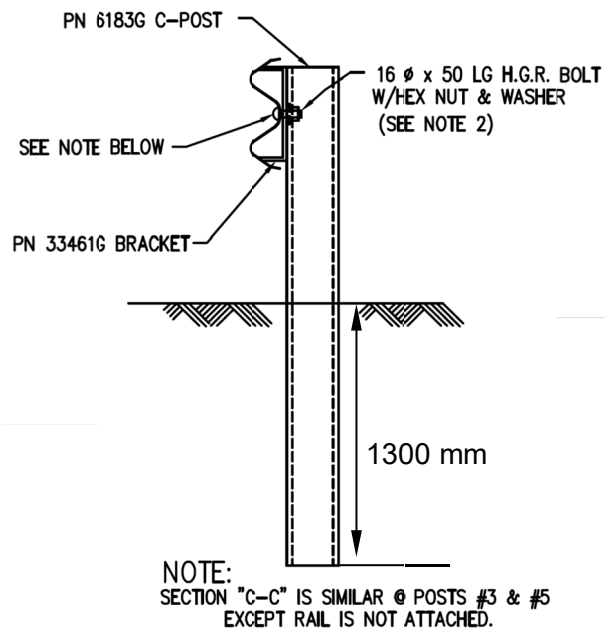

Figure 6
Option (1) Drive the C120 Posts (PN 6183G) with an approved driving head to the appropriate depth(s), approximately 1300 mm (see Figure 6).
2. At Post location 6, fasten the Standard Guardrail (PN 10629G) and U-Bracket (PN 33461G) to the 2000 mm C120 Post (PN 6183G) using a 16 mm x 50 mm Guardrail Post Bolt (PN 3400G), a rail hex nut (PN 3340G), and a flat washer (PN 3300G) (see Figure 6). The flat washer is positioned between the post and the nut.
Fasten a U-Bracket (PN 33461G) to the 2000 mm C120 Post (PN 6183G) using a 16 mm x 50 mm Guardrail Post Bolt (PN 3400G), a rail nut (PN 3340G), and a flat washer (PN 3300G). The washer is positioned between the Post and the nut (see Figure 6).
4. At Post location 4, fasten the Standard Guardrail (PN 10629G) and U-Bracket (PN 33461G) to the 2000 mm C120 Post (PN 6183G) using a 16 mm x 50 mm Guardrail Post Bolt (PN 3400G), a rail nut (PN 3340G), and a flat washer (PN 3300G) (see Figure 6). The washer is positioned between the post and the nut.
5. At Post location 3, splice the 4 m Anchor Guardrail (PN 29G) to the 4 m Standard Guardrail (PN 10629G) attached in Step 3 (above) using eight (8) 16 mm x 32 mm Guardrail Splice Bolts (PN 3360G) and rail nuts (PN 3340G).
Fasten a U-Bracket (PN 33461G) to the 2000 mm C120 Post (PN 6183G) using a 16 mm x50 mm Guardrail Post Bolt (PN 3400G), a rail nut (PN 3340G), and a flat washer (PN 3300G). The washer is positioned between the Post and the nut (see Figure 6)